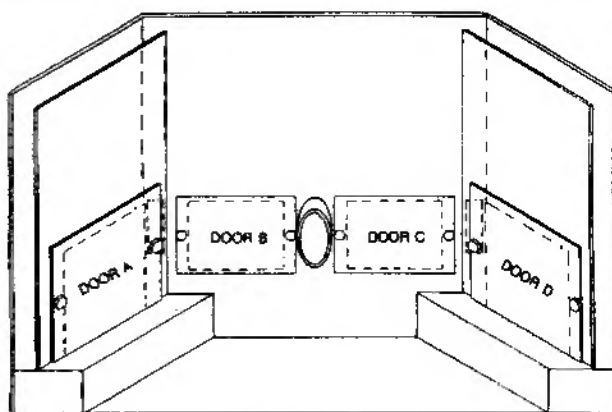

FIGURE 10
- Four (4) cover plates in the firebox can be removed for periodic cleaning (see figure 10). All four doors allow access to the chamber surrounding the firebox. Periodically, you must vacuum ashes from this chamber. In some cases you will need to remove creosote which can accumulate rapidly under certain conditions. A small wire brush can be used. It is important to remove this creosote since it is highly combustible. **INSPECT BEHIND THESE COVER PLATES AT LEAST ONCE PER TON OF PELLETS BURNED UNTIL YOU ARE FAMILIAR WITH HOW ASHES AND CREOSOTE ACCUMULATE WITH YOUR OPERATING PATTERNS.**
clean as these ashes can impede performance. Creosote can also accumulate in the combustion blower. This needs to be brushed clean. The convection blower is accessed by removing the stove's left side panel and the combustion blower is accessed through door C (see figure 10). **NOTE:** Be careful when cleaning not to dislodge balancing clip on convection blower, or bend fan blades. Some stove owners lightly spray an anti-creosote chemical on the fire to help reduce creosote formation within the stove.